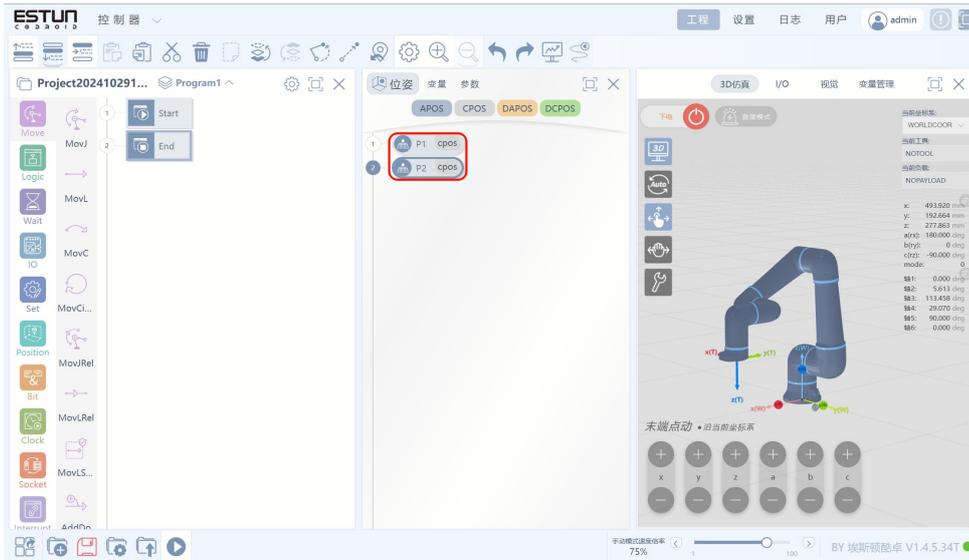

Figure 3-14
3. Move the robot to another position and repeat steps 1 and 2 to add the second point, as shown in Figure 3-14;